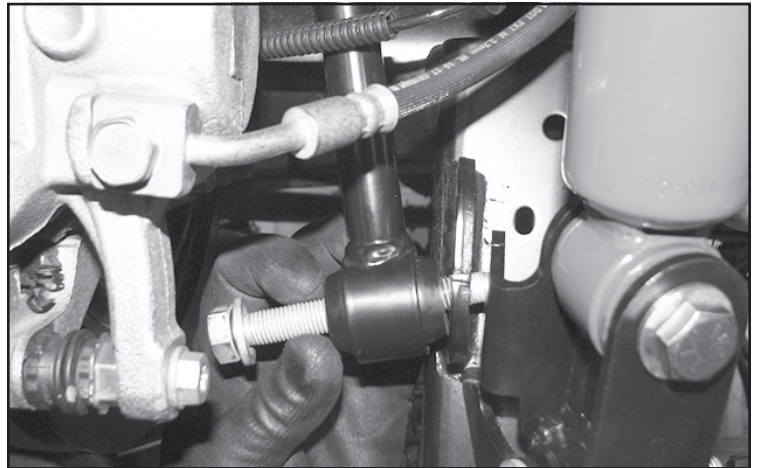

FIGURE 13 - STEP 9
9. Install the FT50048 (Bushings) and FT404739 (Sleeves) into FT50026BK (Rear sway bar links). Then, install the new links to the sway bar and sway bar mount on the axle using supplied M12 x 70mm hardware for the upper location and the factory for the lower. Torque to 100 ft-lbs **SEE FIGURE 13**